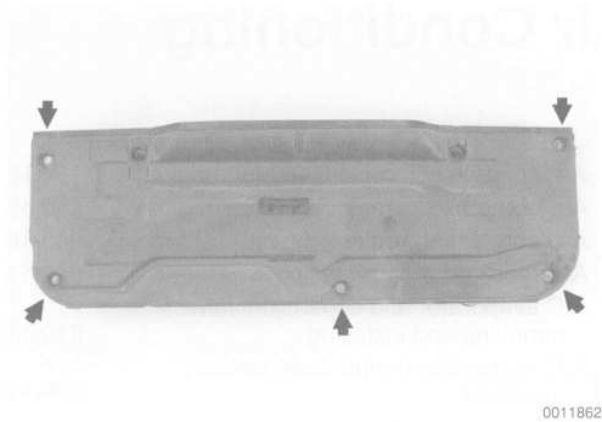

Fig. 1. Bulkhead splash shield retaining screws (arrows).
4. Remove bulkhead splash shield by removing six retaining screws. See Fig. 1.